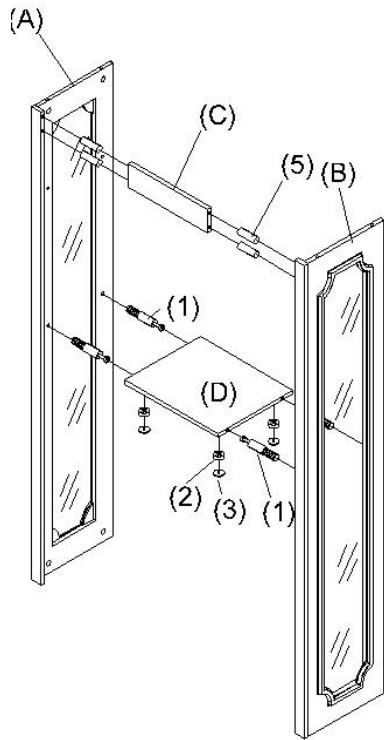

FIGURE 1
3. INSERT WOOD DOWELS (5) AND CAM-BOLTS (1) INTO PREDRILLED HOLES ON INSIDE OF LEFT AND RIGHT SIDE PANELS (A, B) AND FIT INTO CORRESPONDING HOLES ON ENDS OF CROSS BRACE AND FIXED SHELF (C, D). INSERT CAM-LOCKS (2) INTO BIG HOLES ON UNDERSIDE OF FIXED SHELF (D) WITH SLOT FOR SCREWDRIVER FACING OUTWARD. ROTATE CAM-LOCKS (2) CLOCKWISE TO SECURE CAM-BOLTS (1). PUSH COVERS (3) INTO CAM-LOCKS (2). (AS SHOWN IN FIGURE 1)